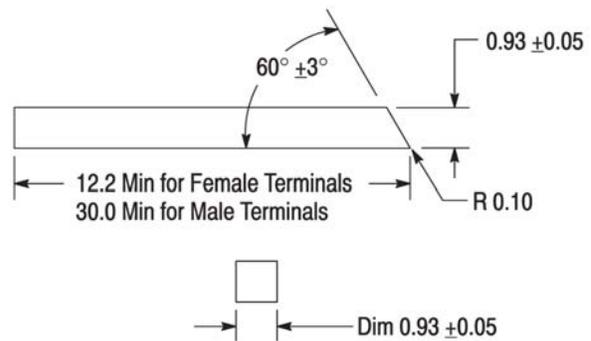
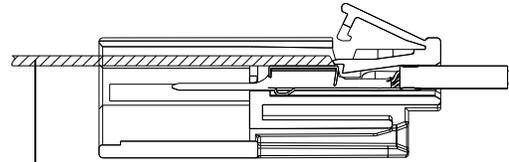

Figure 6
Figure 8
The primary contact locking latch of the connector must be deflected before the contact can be removed from the connector. A suitable tool, (see Figure 6), must be inserted into the corresponding contact removal window to release the primary contact latch, and the wire must be pulled gently to remove the contact from the connector.
3. Insert contact removal tool (as shown in Figure 6) or a jewelers/flat-bladed screwdriver (1.0 mm width) into the selected exposed contact cavity, as shown in Figure 8.